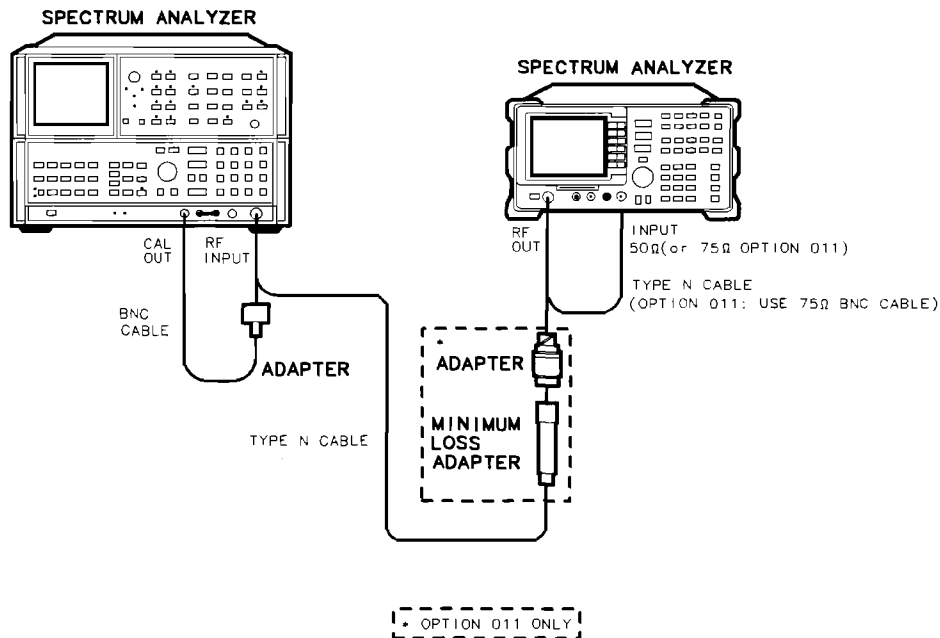

Figure 2-95. Non-Harmonic Spurious Outputs Test Setup
1. Connect the Type N cable between the RF OUT 50 Ω and INPUT 50 Ω connectors on the spectrum analyzer. See Figure 2-95.
6. Connect the Type N cable from the tracking generator output to the microwave spectrum analyzer RF INPUT as shown in Figure 2-95.